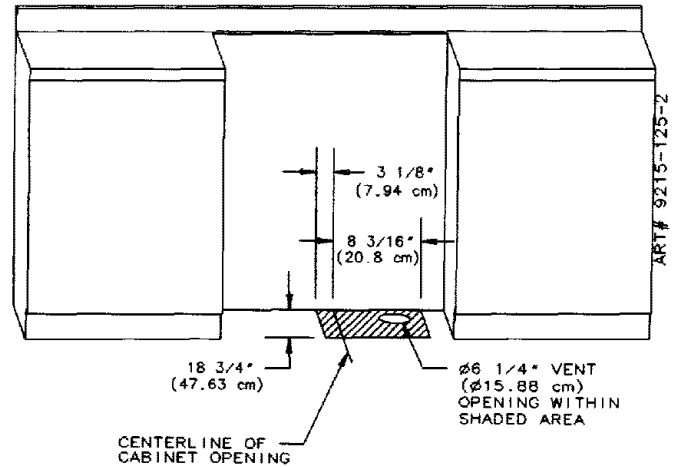
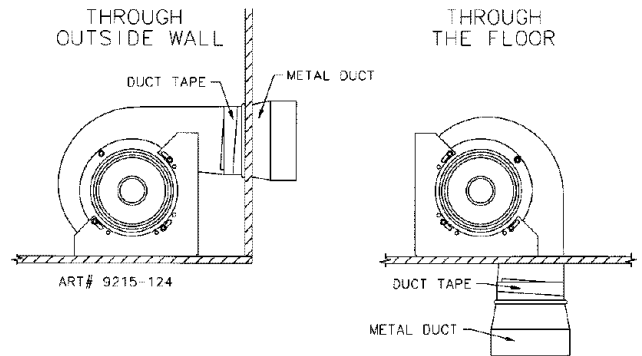

Figure 11
Figure 12
Cut a 6 1/4" diameter hole on the marked centerline making sure to miss any wall studs. Install the blower as shown in figure 12.
b. **Through the floor.** (See figure 11) Making sure to miss any floor joists cut a 6 1/4" diameter hole in the shaded area as shown in figure 11. Install the blower as shown in figure 12.
- Apply duct tape to blower exhaust duct joint. (See figure 12).